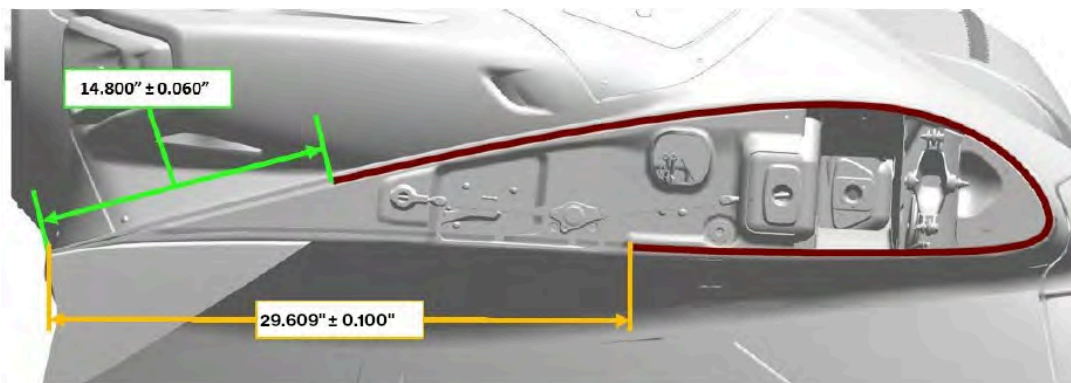
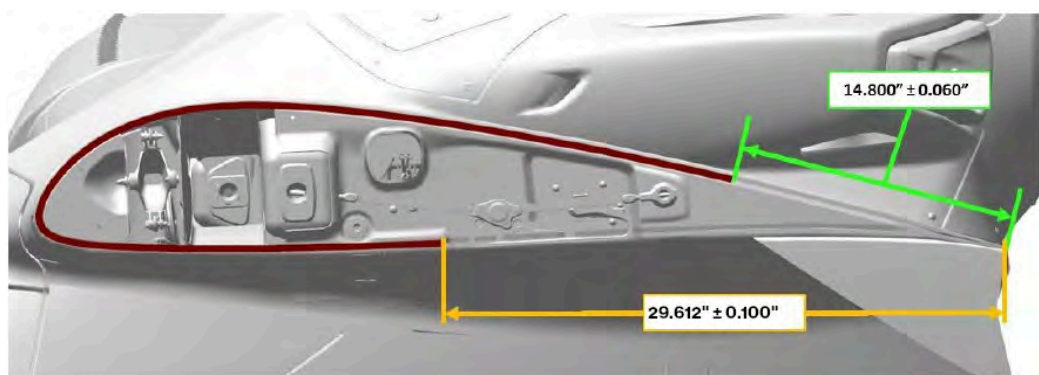

FIGURE 18-2
FIGURE 18-3
3. Locate ends of the seal according to the dimensions shown in reference to the trailing edge. See Figure 18-2 and Figure 18-3.